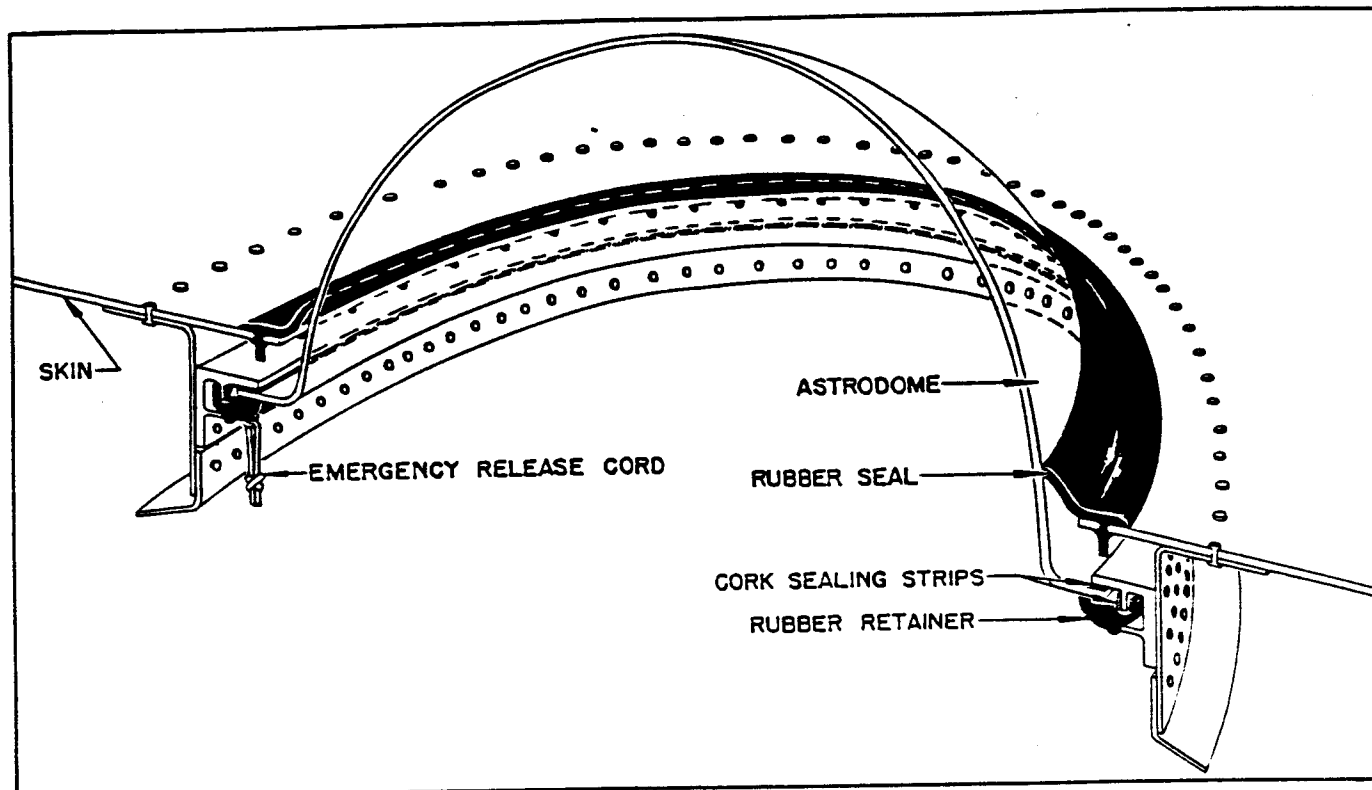

Figure 4. Astro Dome
d. **ASTRODOME.** (See figure 4.)- The astro-dome is designed so that it can be used for emergency escape. The dome is held in a recessed mount by a rubber extrusion. Remove the
(3) TRIM FLAP CONTROLS. (See figure 4.)- The trim flaps are electrically-operated by an eight-position switch located on the pilot's pedestal. Two indicators are installed on the pedestal immediately forward of the control switch.